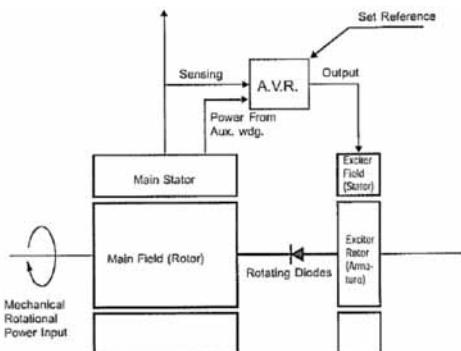

Figure 13.1. Meccalte alternator, operating principles block schematic diagram
The electrical power produced by the generating set is derived from a closed loop system consisting principally of the exciter rotor the main revolving field and the automatic voltage regulator (see Figure 13.1.) The process begins when the engine starts to rotate the internal components of the alternator. The residual magnetism in the main rotor produces a small alternating voltage (AC) in the main stator. The automatic voltage regulator rectifies this voltage (converts it to DC) and applies it to the exciter stator.